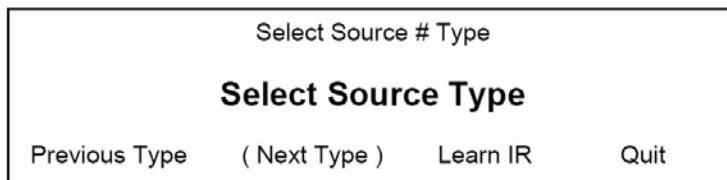
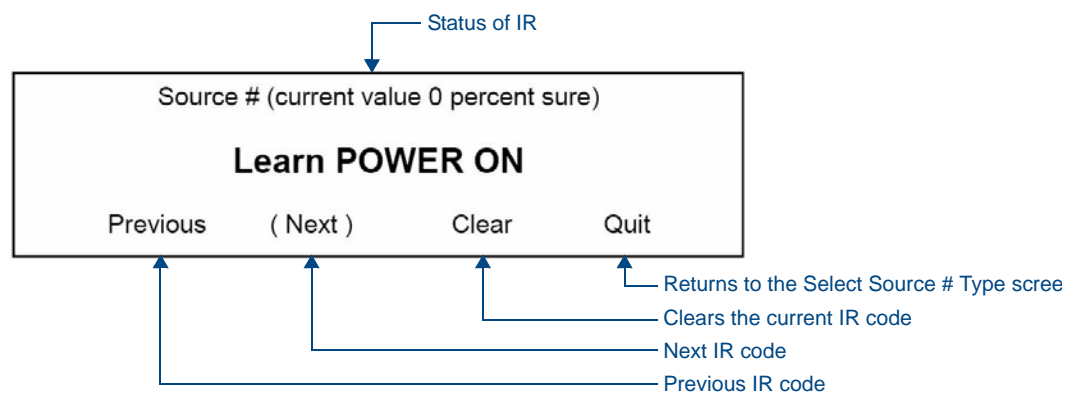

FIG. 27 MRC Setup Mode - Select Source # Type
FIG. 28 Learn IR Commands
1. Select **Learn IR** on the *Select Source # Type* screen (FIG. 27) to access the *Learn IR* screen (FIG. 28), with the first IR to be learned for the selected Source Type: